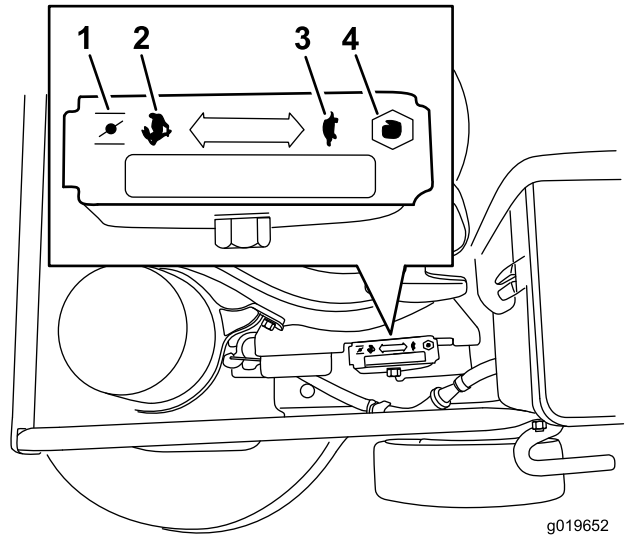

Figure 9
3. Move the throttle control to the **Choke** position (Figure 9).